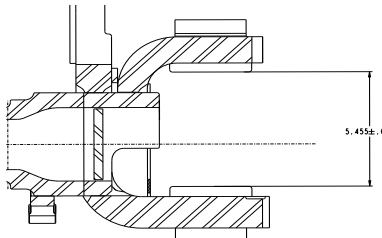

Figure 21: Kingpin housing distance
- A. To determine if the steer kingpin housings are fully seated verify that the steer kingpin housing to kingpin housing distance is  $5.455 \pm .015$  (Figure 21).